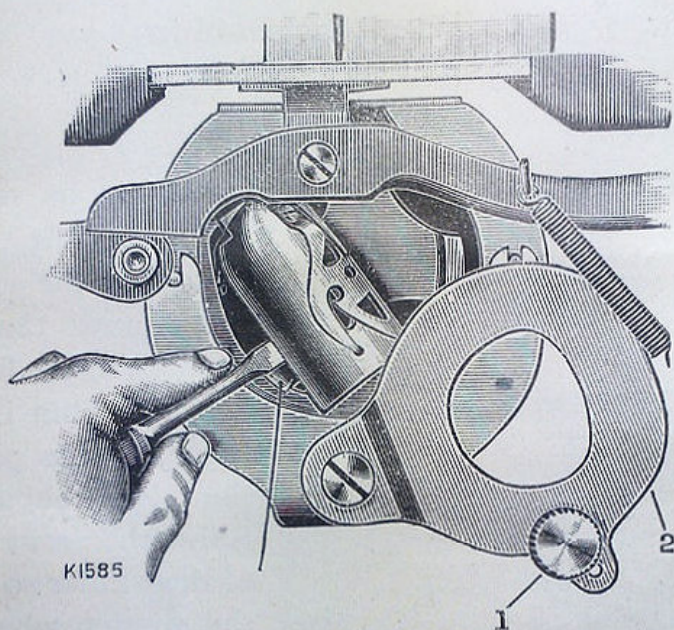

Fig. 5.
(See Fig. 5.)
Turn the balance wheel towards you from above until the needle descends to its lowest point, and draw out the slide in the bed plate of the machine; then, with the left hand beneath the table, take hold of the knob (1), pulling it slightly towards you in order to release the shuttle guard ring (2), and push it downwards as far as it will go. Insert the blade of a screw driver between the shuttle cylinder and the shuttle latch spring, as shewn in Fig. 5. Press the screw driver handle from you to cause the cylinder to come forward and the bobbin to drop into the hand.